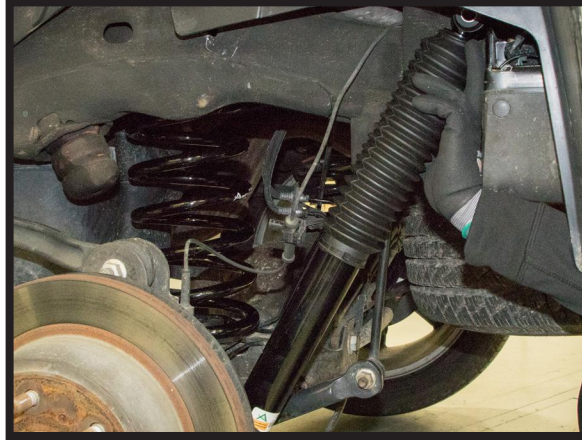

FIGURE 65
3. INSTALL THE SHOCK INTO THE VEHICLE. (FIGURE 65)